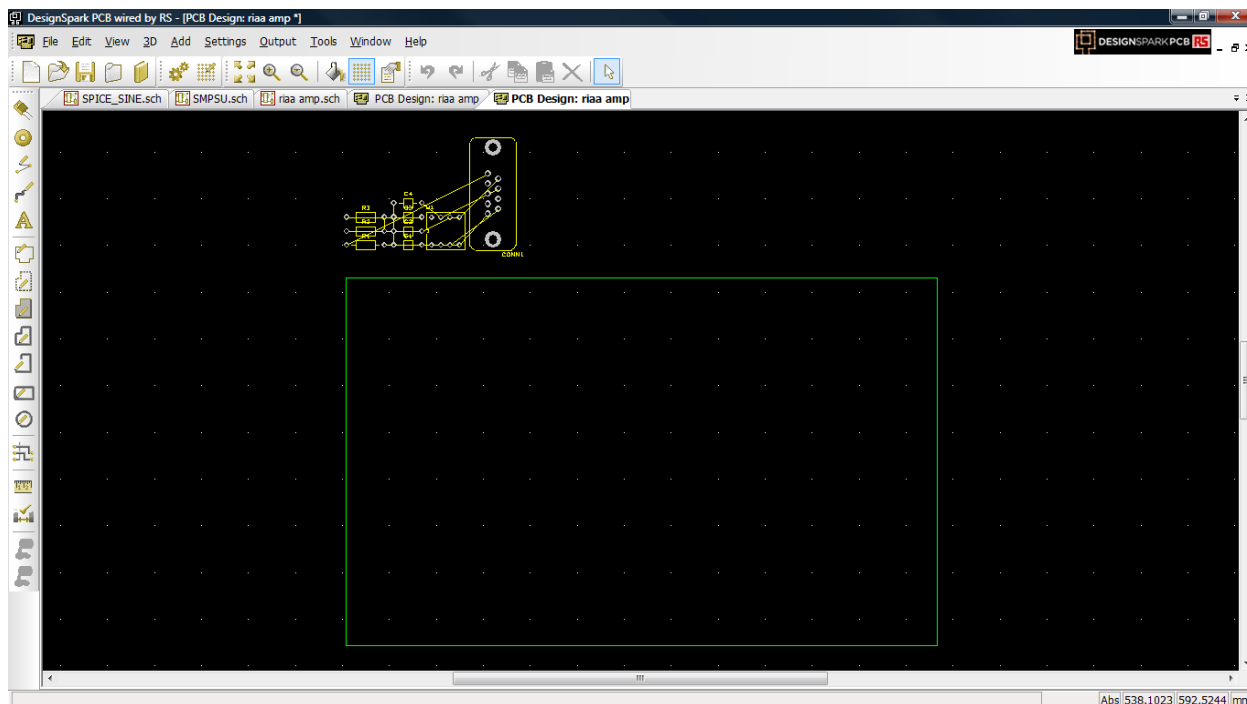

Figure 6-12: PCB Component Placement
8. The result is that the board as previously specified, is shown with all the components placed on the outside of the board as shown in Figure 6-12.